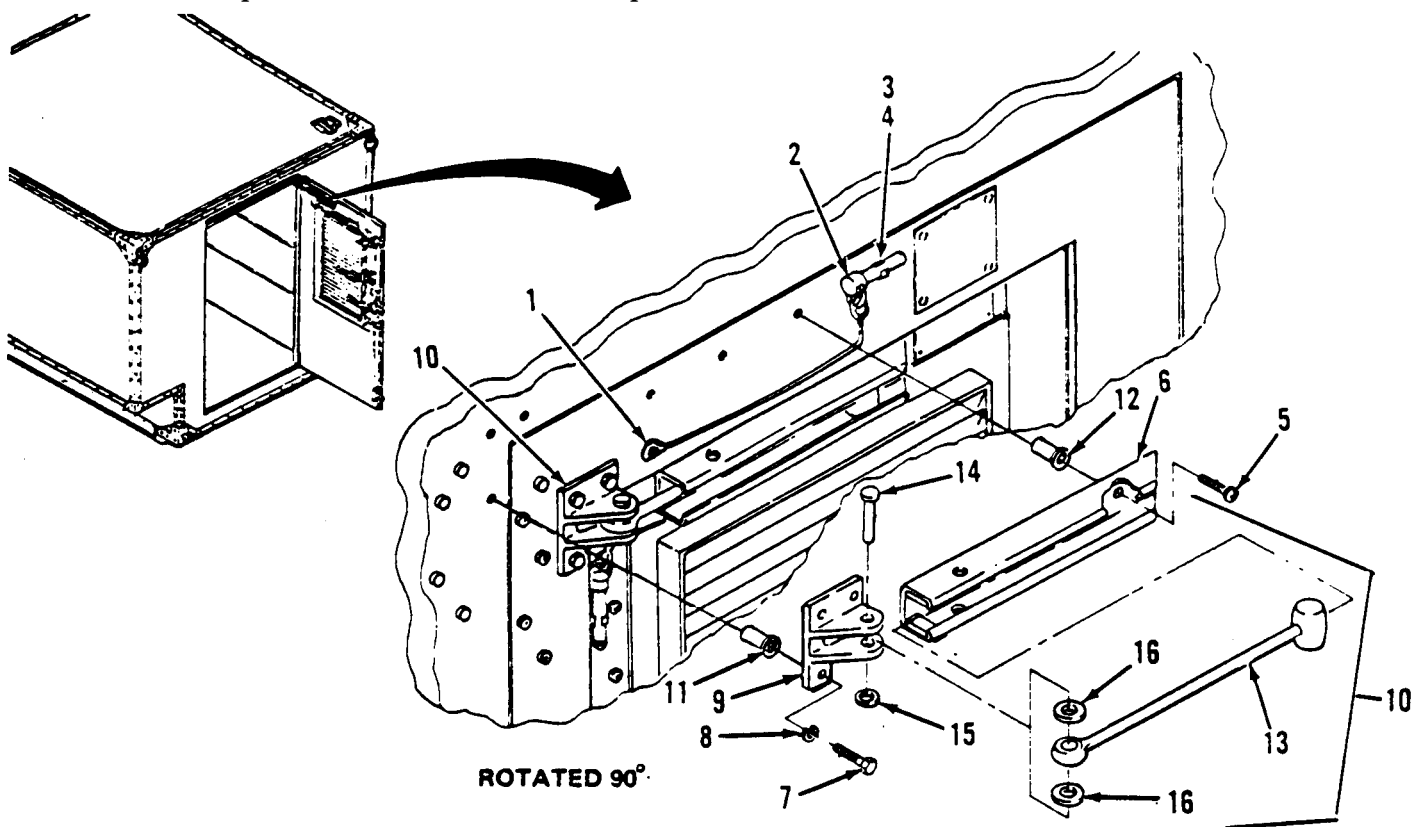

Figure 3-34. Door Stay Assembly Repair and Replacement.
- a. Inspect.* (Figure 3-34)
- (1) Inspect for missing or damage hardware.
- (2) Inspect for wear, dents, or other damage.
- (3) Inspect that rod (13) moves freely.
- (4) Inspect for secured or damaged detent pin (2).
- b. Remove.* (Figure 3-34)
- (1) Drill out rivet (1) attaching lanyard tab of detent pin (2) and remove detent pin.
- (2) Drill out two rivets (3) attaching spring tension clip (4) and remove clip (4).
- (3) Push door open and remove and retain three phillips head screws (5) attaching door stay channel (6) to door panel (outer or inner door).
- (4) Remove and retain three hex-head screws (7) and lock washers (8) attaching door stay bracket (9) to panel (shelter or inner door), and remove door stay assembly (10).
- (5) Inspect condition of rivnuts (11 and 12) and replace if necessary (paragraph 3-9.b).
- c. Disassemble.* (Figure 3-34)
- (1) Push channel assembly (6) out of door stay rod (13).
- (2) Grind off end of pin (14) and remove flat washer (15).
- (3) Remove pin (14) to release door stay rod (13) and two flat washers (16) from bracket (9).
*e. Assemble.* (Figure 3-34)
- (1) Position two flat washers (16) and door stay rod (13) in place inside bracket (9) end secure in place with pin (14).
- (2) Push flat washer (15) in place from bottom of pin (14), and peen end of pin (14) over to hold washer (15).
- (3) Slide rod end (13) into channel assembly (6).
*f. Install.* (Figure 3-34)
- (1) Position channel assembly (6) on door panel (outer or inner door) and secure to panel with three phillips head screws (5) after dipping screws in sealer.
- (2) Position bracket (9) in place on panel (shelter or outer door panel) and secure with three hex-head screws (7) dipped in sealer, and three lock washers (8).
- (3) Position spring tension clip (4) and secure to panel with two rivets (3) dipped in
- (4) With a rivet (1) dipped in sealer, attach lanyard tab of detent pin (2) to door panel (outer or inner door panel).